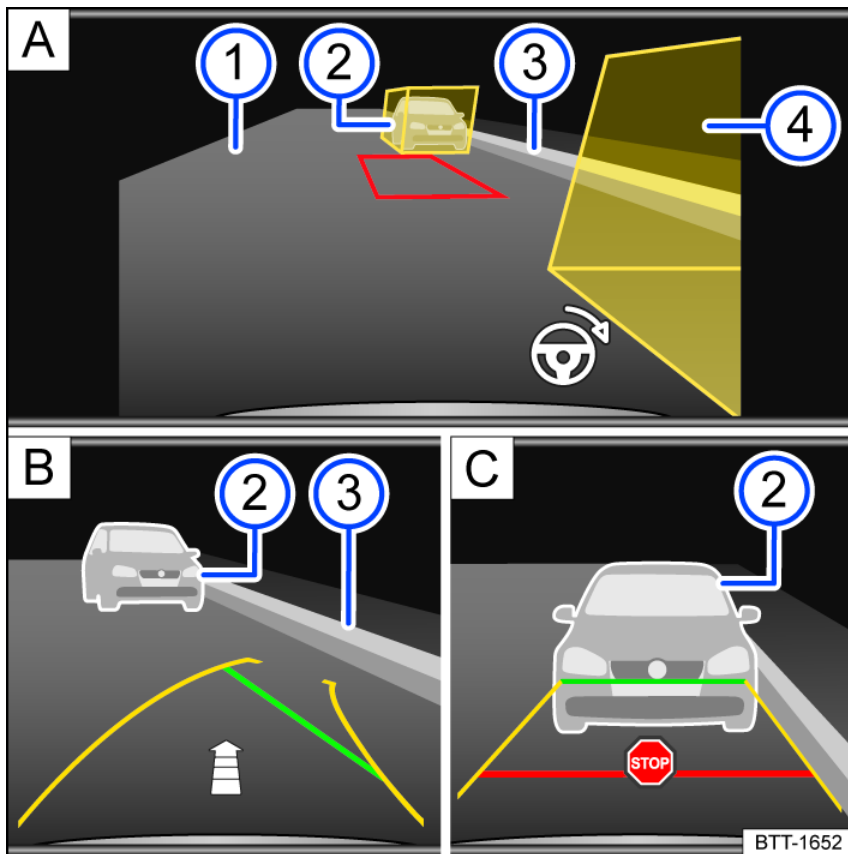

Fig. 139 Infotainment system: Parking parallel to the road.
① Road surface.
② Obstacle or assisting box.
③ Side boundary of the parking space.
④ Obstacle or assisting box.
- Position the vehicle parallel to the parking row approximately 3.3 ft (1 meter) away. The yellow assisting boxes must cover the obstacles fig. 139 A ② or ④. The area in between must be free of obstacles.
- Select the reverse gear. A red frame represents the target position of your vehicle fig. 139 A.
- Turn the steering wheel until the red frame moves between the assisting boxes and becomes green fig. 139 A. Hold the steering wheel in this position while driving in reverse.
- Drive slowly in reverse until the stop symbol appears or the green line aligns with the side boundary of the parking space fig. 139 C. An fig. 139 B indicates the remaining distance to be driven based on the number of displayed segments.